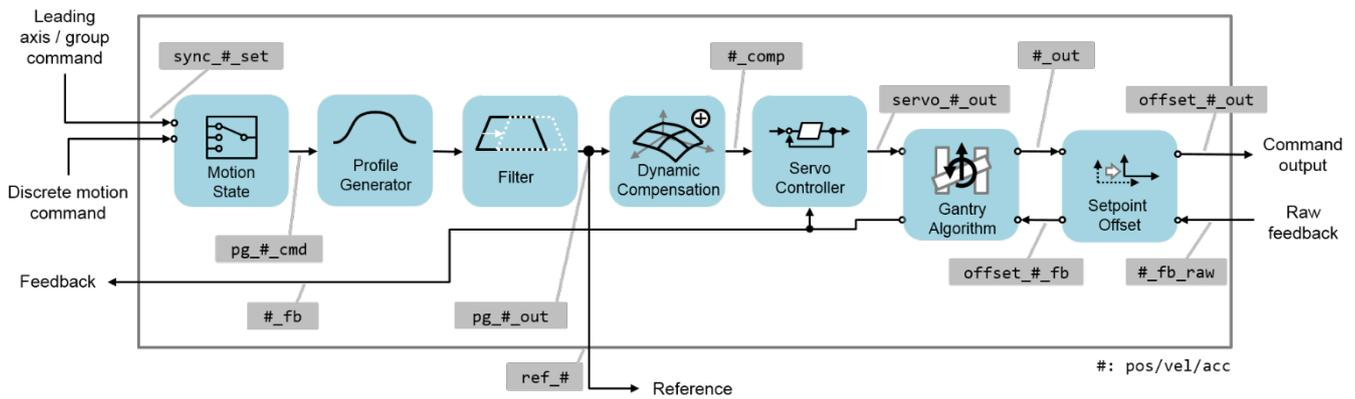

Figure 3.1.1
HIMC provides single axis motion commands, including point-to-point (P2P), JOG and synchronized motion. Users can use the related motion functions based on application and requirement. Figure 3.1.1 is the flow diagram of HIMC axis motion control. Reference position will be generated after motion command goes through the built-in profile generator (PG), and the position output for servo drive will be generated after the output reference position adds error compensation value.